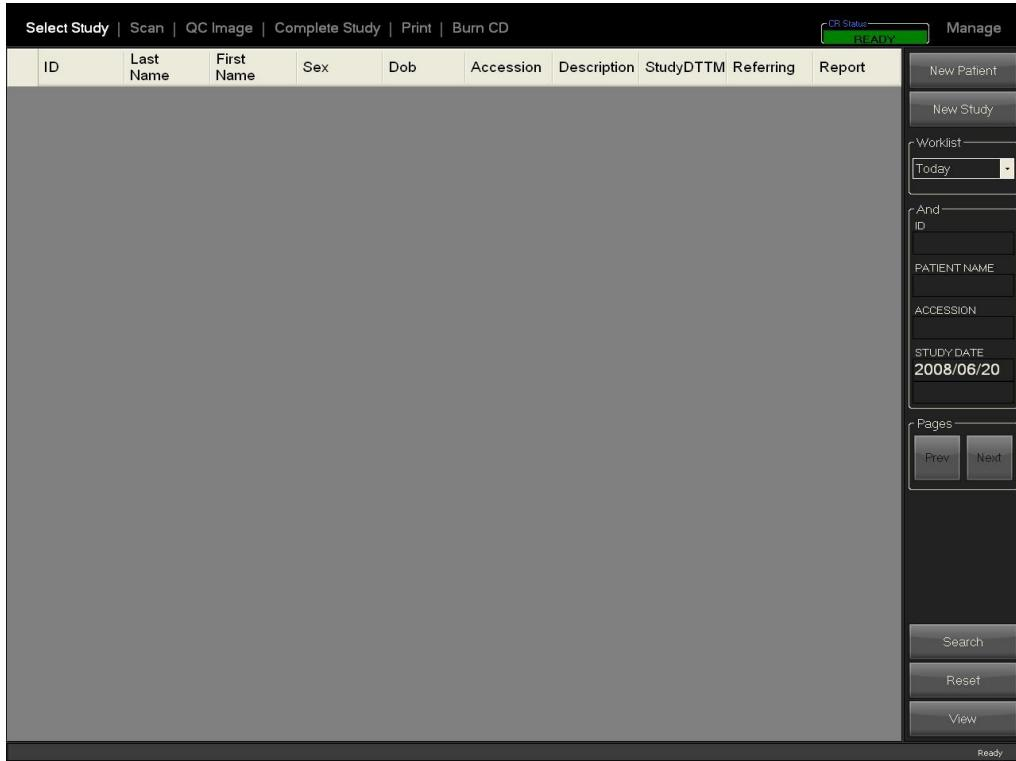

Figure 2
2. Image Pro software home screen will appear as Figure 2.